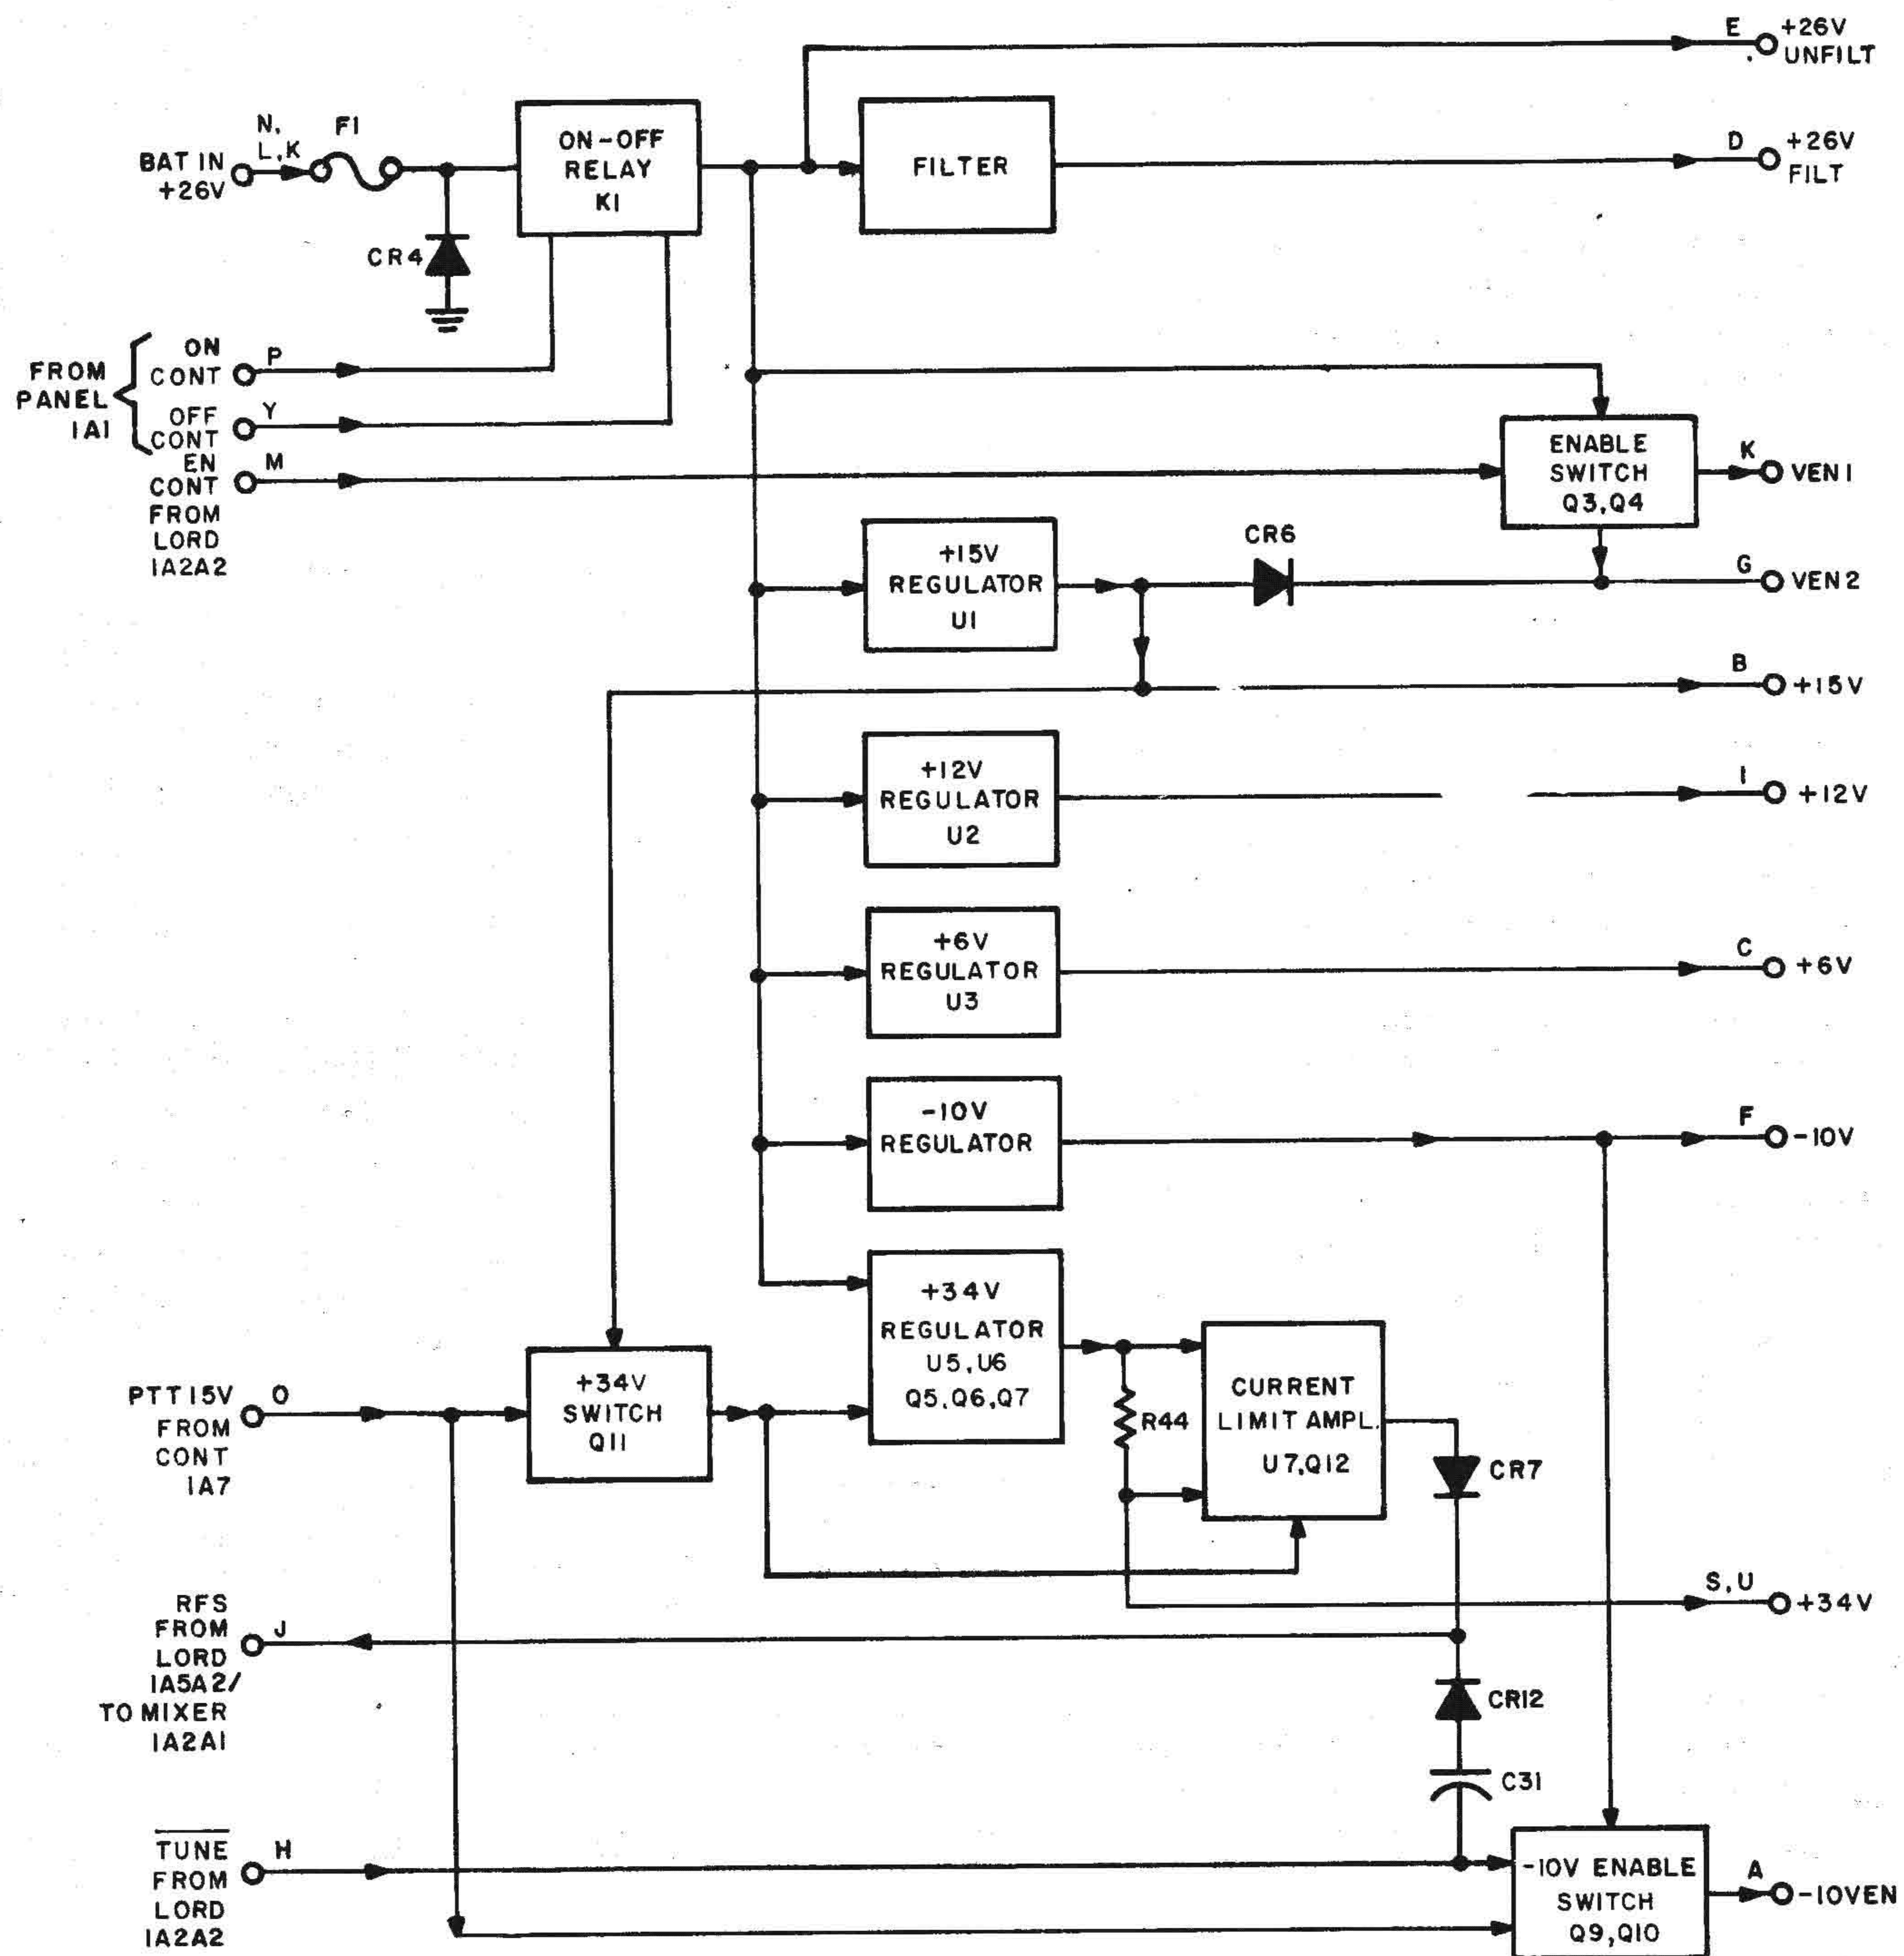

Fig. 2-42. Module PS1A4, block diagram
2-16. Power Supply Module PS 1A4 (fig. 2-42 through 2-49)
a. Block Diagram Analysis (fig. 2-42). The primary DC voltage, normally supplied from the RT-936/PRC-174 battery, arrives at pins N, L, K of the module, and passes through a protection fuse to the ON/OFF relay. A diode provides protection against reversal of primary voltage polarity.